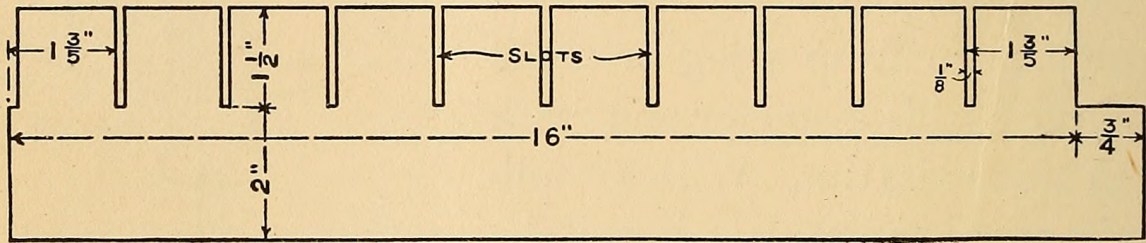
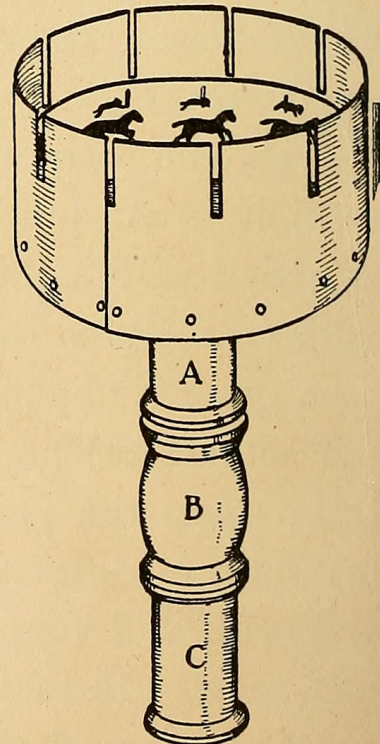

FIG. 353. — Pattern for Cardboard Cylinders.
FIG. 354. — The Completed Moving-picture Machine.
*A* against the base until it is glued fast. Slip spool *B* on to the pencil and glue spool *C* on to the end (Fig. 354).
$16\frac{3}{4}$  inches long (Fig. 353), and mark off the ten slots at equal distances apart. Cut out the cylinder with a pair of shears or a sharp knife, then tack its lower edge to the edge of the wooden base, as shown in Fig. 354, and glue the ends of the cardboard together.